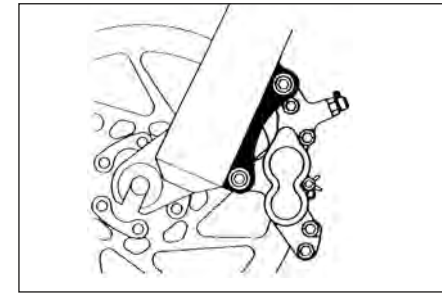
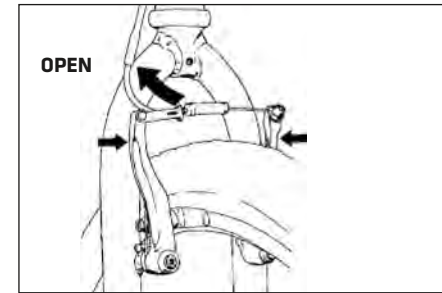

Figure 11.
Figure 12.
- (1) If your bike has rim brakes, disengage the brake's quick-release mechanism to increase the clearance between the tire and the brake pads (See Section 4.C fig. 11 through 15).
- (2) If your bike has rim brakes, disengage the brake's quick-release mechanism to increase the clearance between the wheel rim and the brake pads (see Section 4.C, figs. 11 through 15).
- (3) On a derailleur gear system, pull the derailleur body back with your right hand.
3. Some bicycle brakes, such as disc brakes (fig. 11) and linear-pull brakes (fig.12), are extremely powerful. Take extra care in becoming familiar with these brakes and exercise particular care when using them.
Most rim brakes have some form of quick-release mechanism to allow the brake pads to clear the tire when a wheel is removed or reinstalled. When the brake quick release is in the open position, the brakes are inoperative. Ask REI to make sure that you understand the way the brake quick release works on your bike (see figs. 12, 13, 14 & 15) and check each time to make sure both brakes work correctly before you get on the bike.